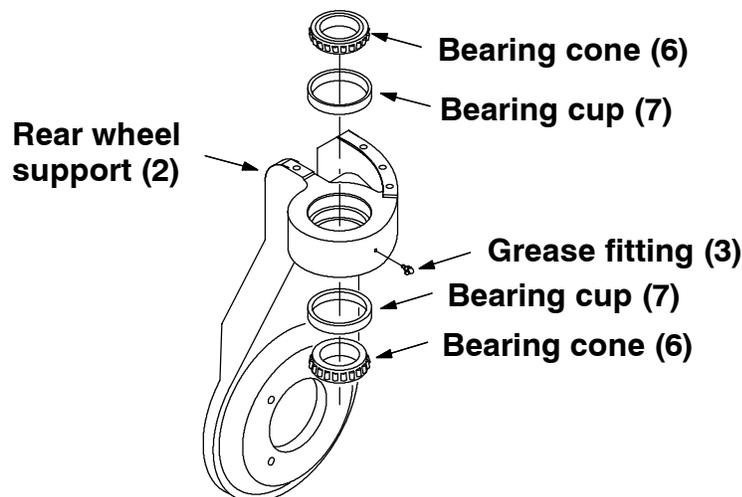

FIG. 7 - Bearing Cones And Cups
16. Lower the rear wheel support and remove it from under the machine. (Refer to FIG. 7)
24. Install the grease fitting (3) in the threaded hole on the side of the new rear wheel support (2). (Refer to FIG. 7)
25. Install the new bearing cups (7) in the new rear wheel support (2). (Refer to FIG. 7)